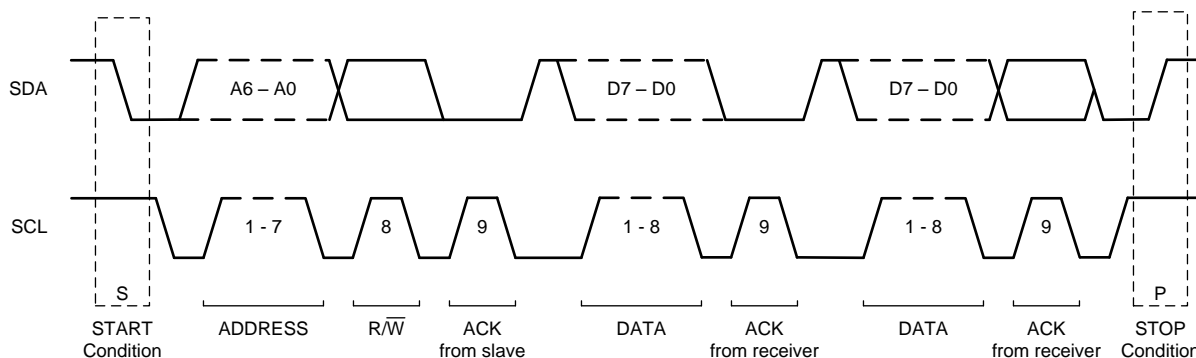

图 34. I²C Data Transfer Format
Figure 34 shows the format of the data transfer. The master initiates all transactions with the ADS1119 by generating a START (S) condition. A high-to-low transition on the SDA line while SCL is high defines a START condition. The bus is considered to be busy after the START condition.